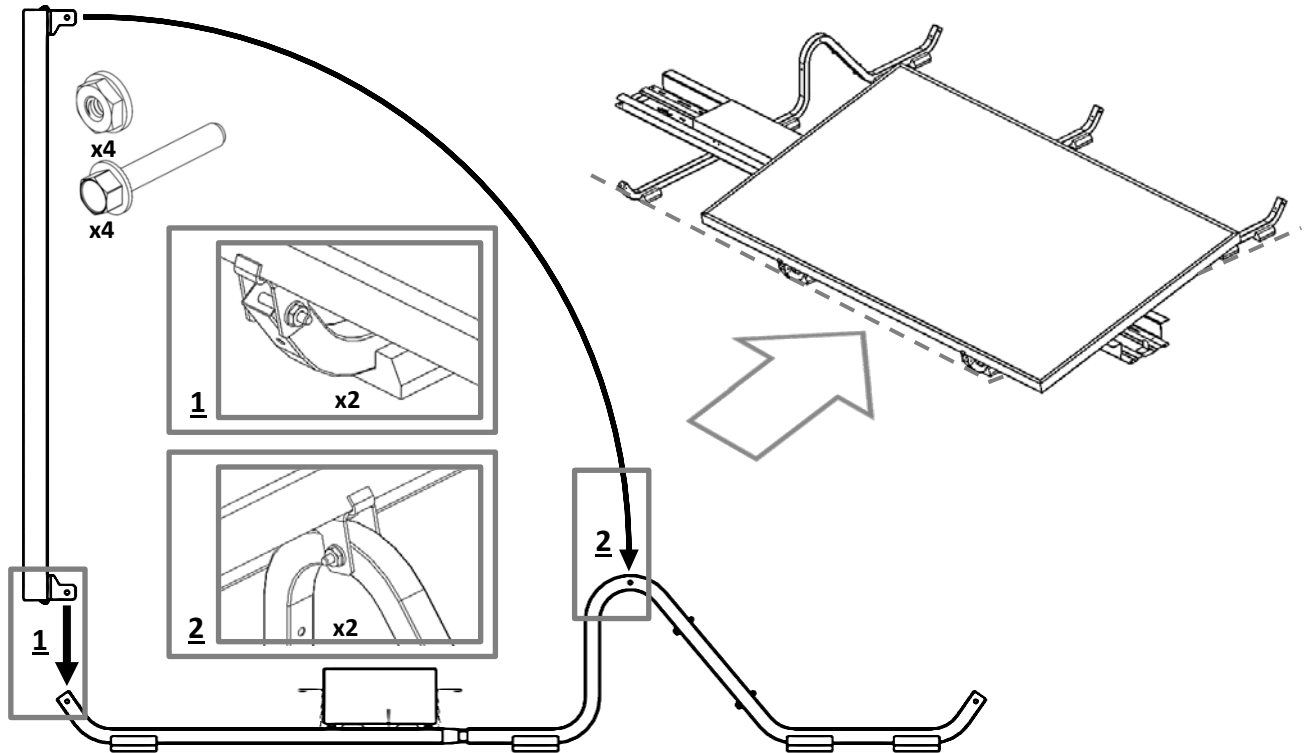

Figure 5 Attach Module to Supports
11. Using Figure 5 align Claws over South Support mounting holes. Insert bolts through Claw and Support mounting hole. Finger-tighten nuts onto bolts.